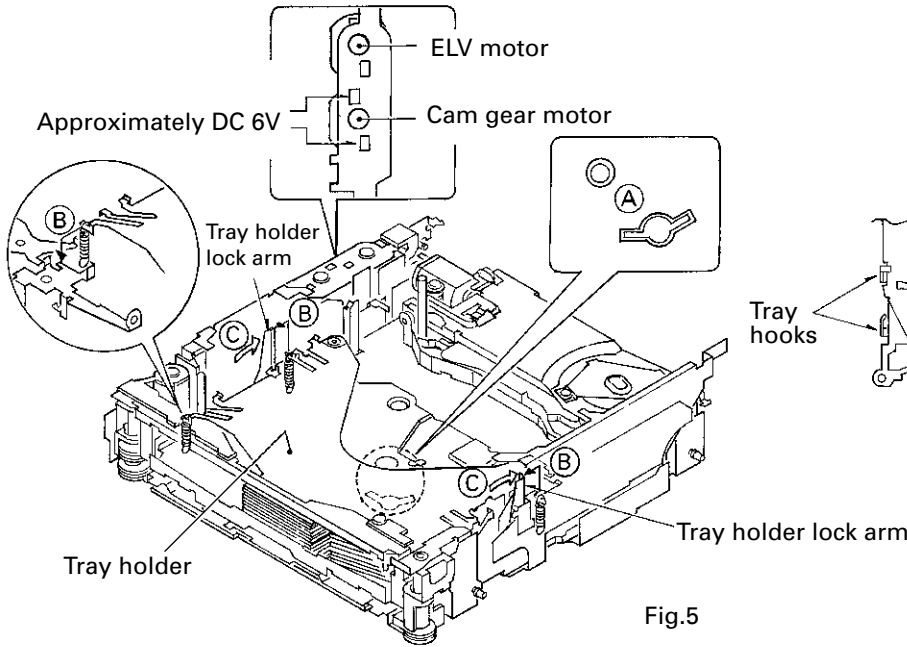

Fig.5
1. Apply about 6V current to the Cam gear motor until all holes match at the position (A) (elevation OK position).
2. Hook the three springs B temporarily as shown in Fig. 5. While pushing the Tray holder lock arms (right and left) in the direction (C), remove the Tray holder.